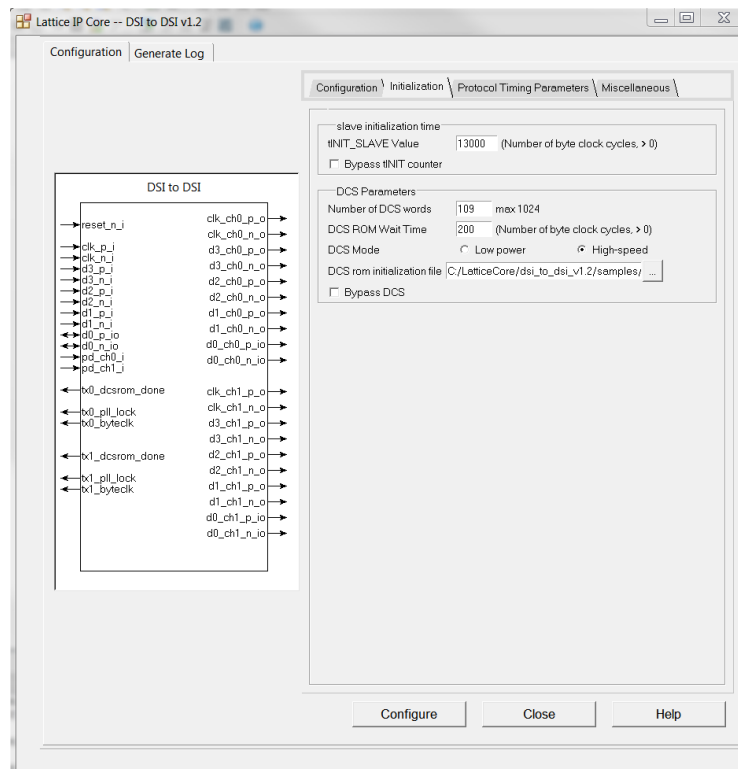

Figure 4.5. Initialization Tab in IP User Interface
- To configure Initialization parameters, click the **Initialization** tab as shown in Figure 4.5.